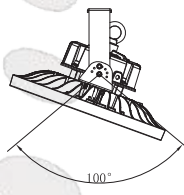

Figure 7
4. After installation, connect the wire of the fixture to the mains according to local wiring rules, ensure the connection is stable and make good protection on the connection. By adjusting the brackets screws, users can adjust 50° to the left or right vertically. (figure 7)